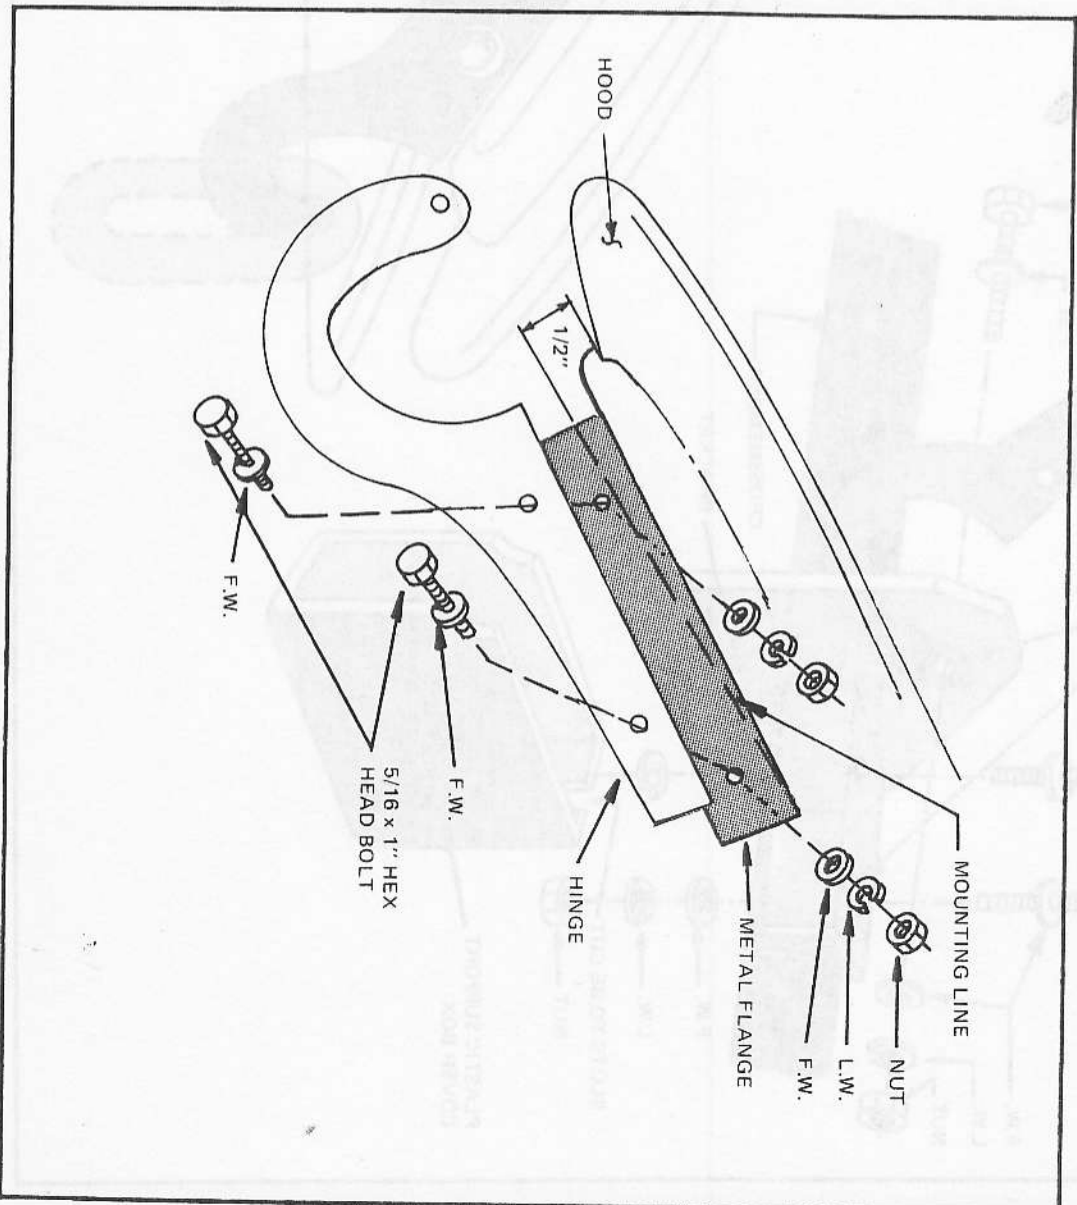

Figure 9
- Place hinges against outside edge of metal flanges on hood. Line edge at rear of hinge where it starts to curve with inside bottom edge of fiberglass elevation behind the metal flange. The front of hinge rests on the fiberglass at the front of flange. The rear bottom edge of hinge should be $1/2''$ from fiberglass at rear of flange. Drill two $5/16''$ holes through each hinge and flange. Secure hinges to flange with $5/16 \times 1''$ hex head bolts, flat washers, lock washers and nuts. (Figure 9)